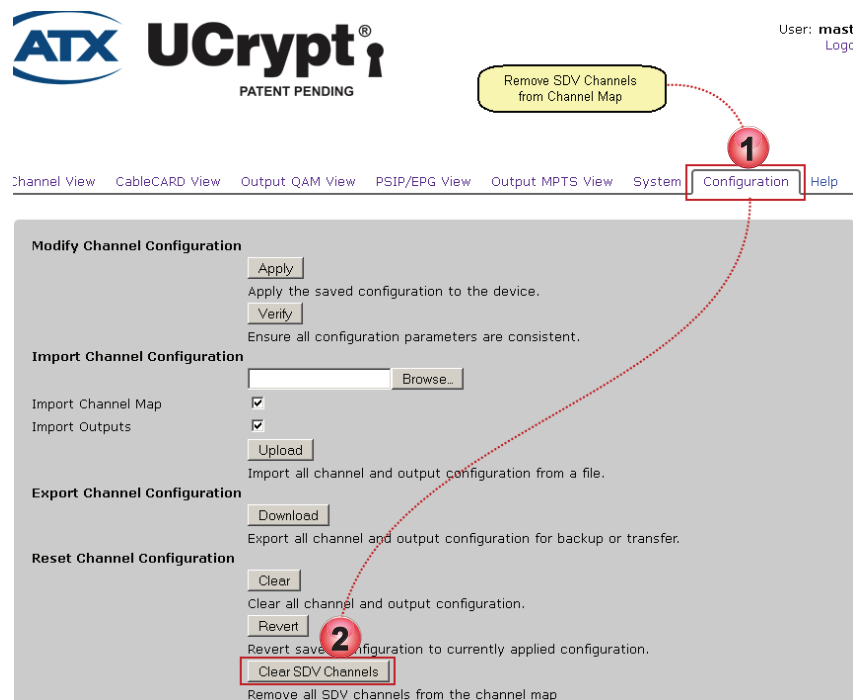

Figure 13-7: Clear SDV Channels From Channel Map
1. Click the **Configuration** tab if it isn't already selected, Figure 13-7.